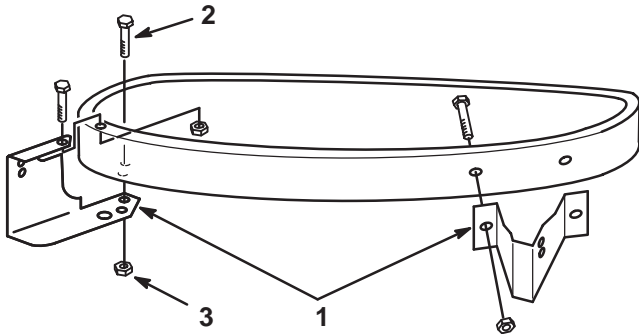

Figure 1
1. Mount the wheel brackets to the mower deck with $\frac{5}{16}$ – 18 x $\frac{3}{4}$ " screws and $\frac{5}{16}$ – 18 lock nuts (Fig. 1).